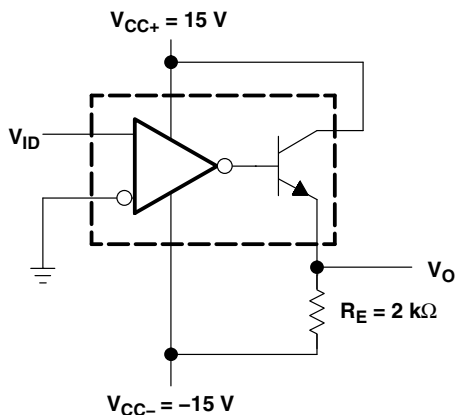

**Figure 6**
**TEST CIRCUIT FOR FIGURES 6 AND 7**